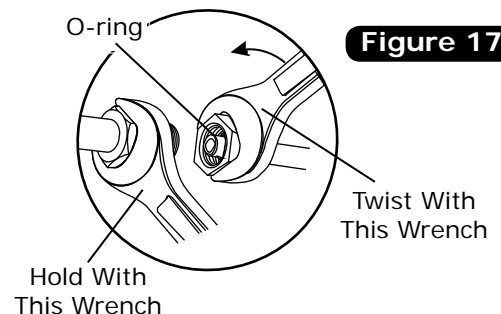
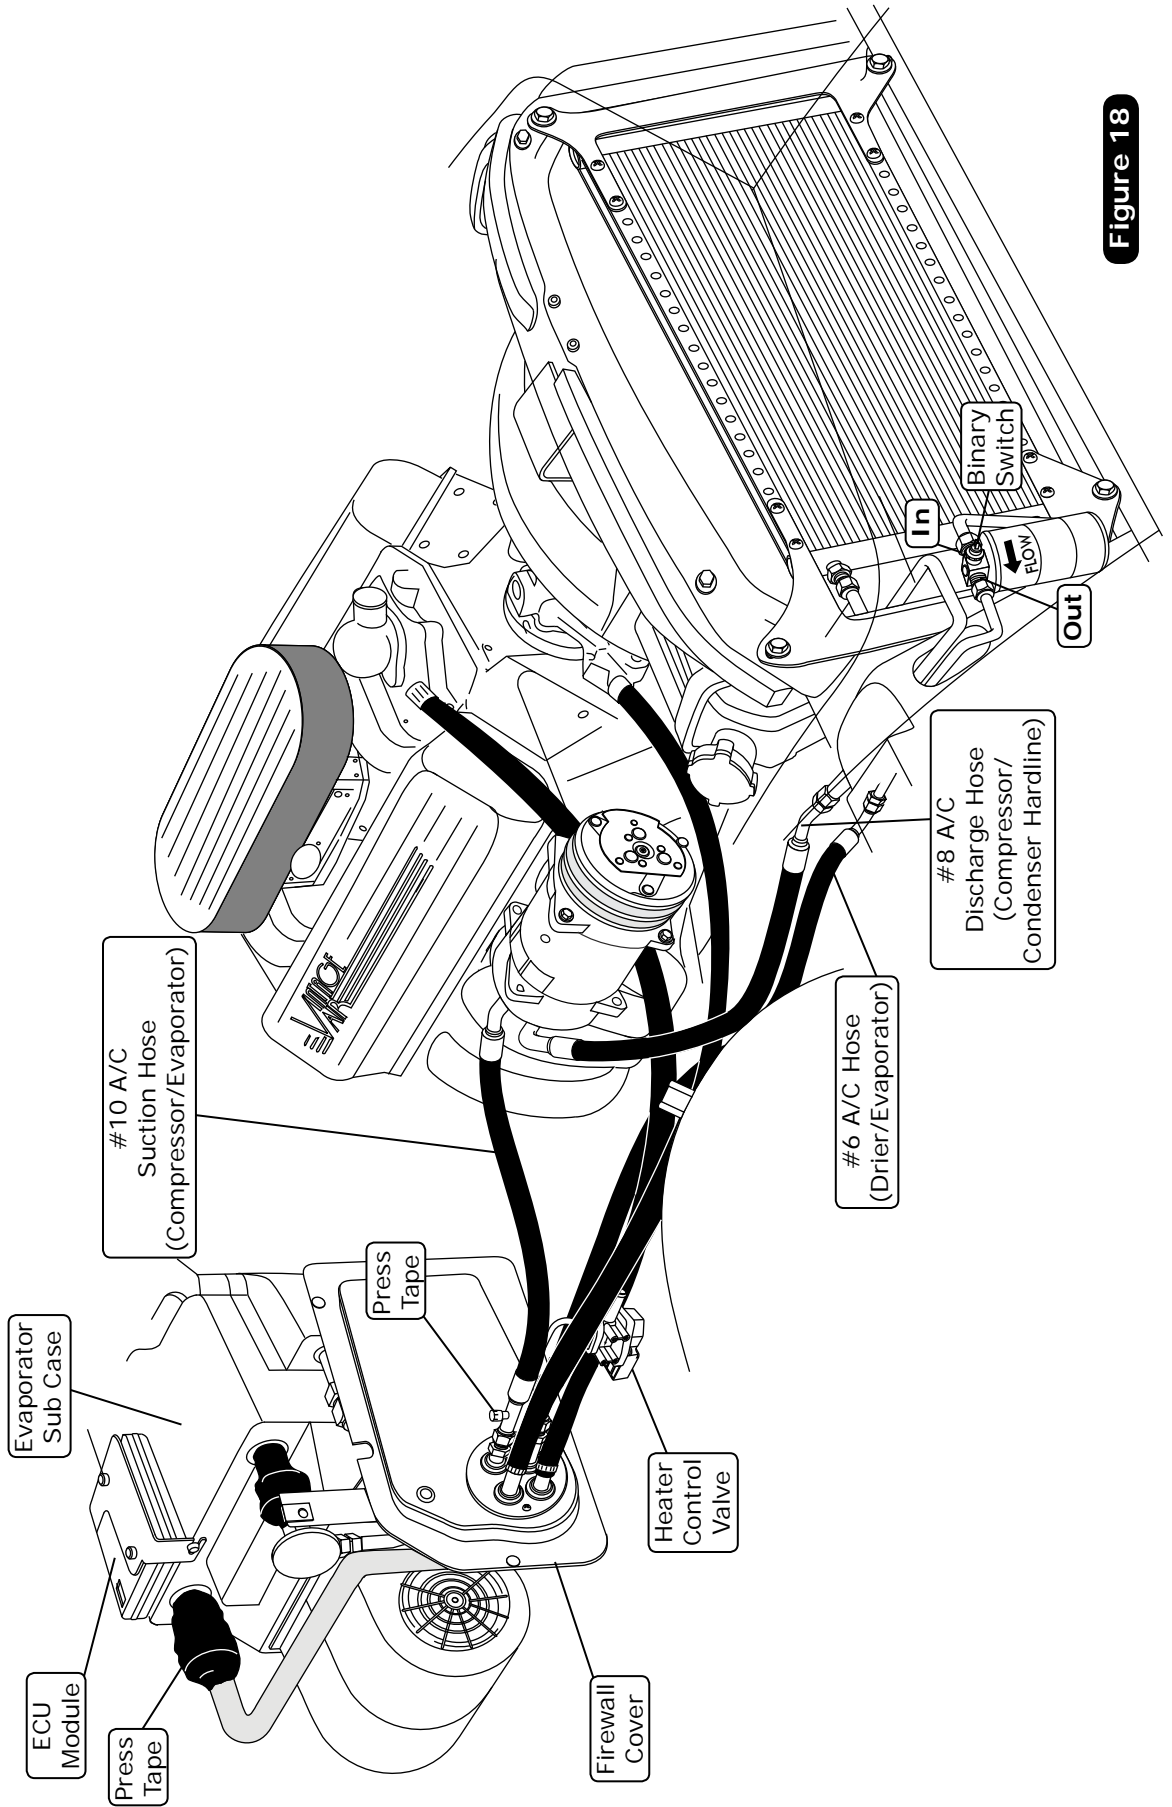

Figure 17
Figure 18
1. On a workbench, install the evaporator rear bracket, and install the evaporator hardlines with properly lubricated O-rings (See Figure 17, Page 19, and Figure 22, Page 23).
1. Locate the #8 compressor A/C hose. Lubricate (2) #8 O-rings (See Figure 17, below) and connect the 135° female fitting to the #8 discharge port on the compressor. Then route the 45° female fitting to the #8 condenser hardline coming through the core support (See Figure 18, Page 20). Tighten each fitting connection as shown in Figure 17, below.
2. Locate the #10 compressor A/C hose. Lubricate (2) #10 O-rings (See Figure 17, below) and connect the 45° female fitting with 134a service port to the #10 suction port on the compressor. Then route the straight fitting to the #10 evaporator hardline coming through the firewall (See Figure 18, Page 20). Tighten each fitting connection as shown in Figure 17, below. **NOTE: Wrap the #10 fitting connections at the firewall with press tape (See Figure 18, Page 20).**
3. Locate the #6 A/C hose. Lubricate (2) #6 O-rings (See Figure 17, below) and connect the 90° fitting to the #6 hardline coming through the core support from the drier. Attach the straight fitting with 134a service port to the #6 evaporator hardline coming through the firewall (See Figure 18, Page 20). Tighten each fitting connection as shown in Figure 17, below. Use a #6 Adel clamp to secure the #6 A/C hose to the inner fender well as shown in Figure 18, Page 20. Secure the Adel clamp to the inner fender using a 10-32 x 1/2" machine screw and nut.